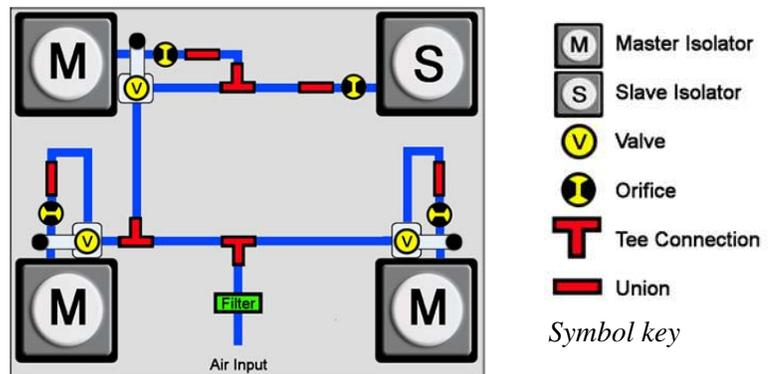
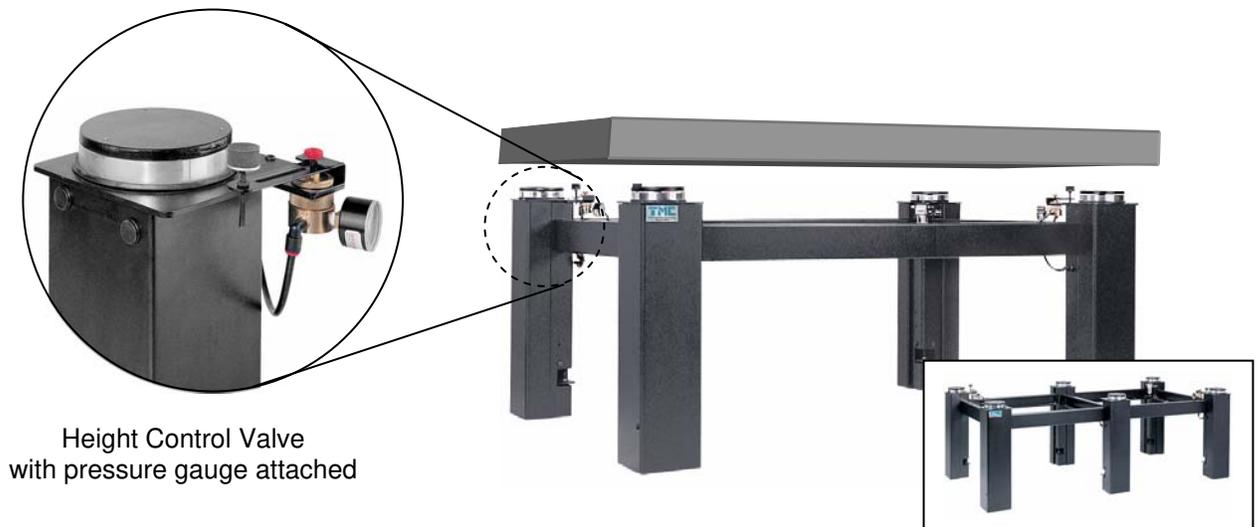

Figure 5 Typical valve schematic for a 4- isolator system
Figure 8 Typical 4 and 6 post assembled isolator frames
Step 5 Locate the three *height control valves* mounted on isolators as typically shown in figure 8 above and referencing figures 5 & 6 earlier.